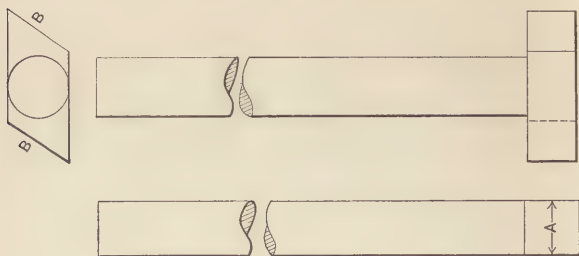

Fig. 21. Planer Bolt.
**Bolts for Planers.**—Fig. 21 shows a bolt for dropping into the slots in any part of a planer bed, thus doing away with starting at the end of the planer to